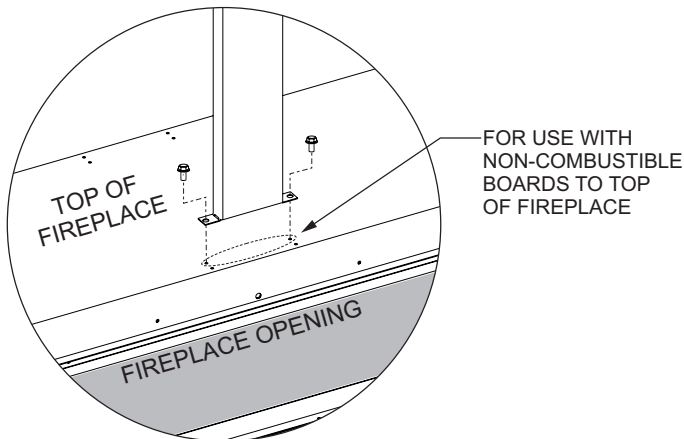

Figure 19 - OPTION 2
- 9b. **OPTION 2** - Secure the brackets to the fireplace top with screws. There are holes located in the top of the fireplace for each standoff bracket. The holes back further from the front edge of the fireplace are for mounting non-combustible board to the top of the fireplace so that tile or stone can cover the face. **Finishing OPTION 2. See Figure 19.**